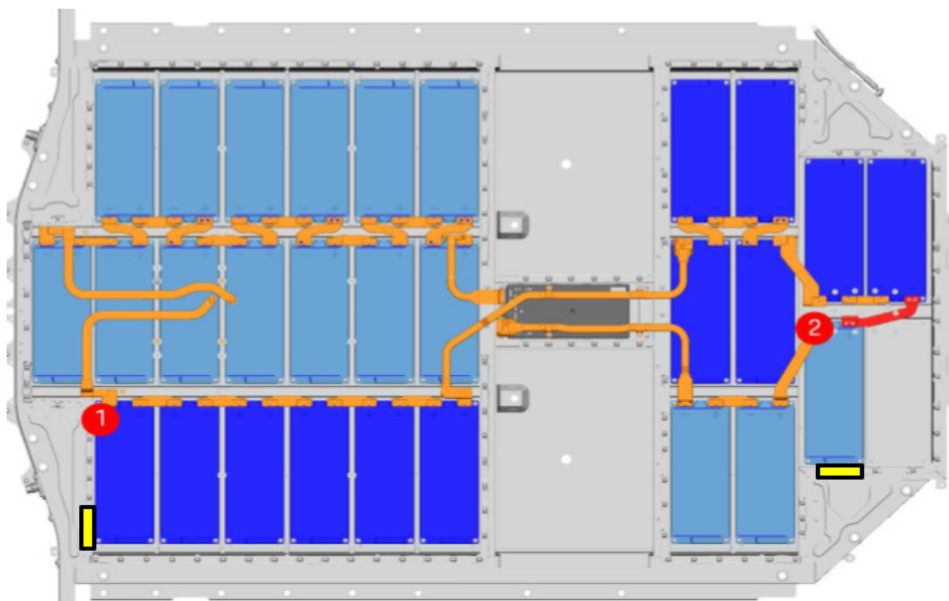

Figure 1 - 28-module HV Battery measurement points
- Suggested grounding points for DST and IR testing on both 28- and 33-module Taycan battery packs have been modified from WM 270803A5 and are detailed below in *figures 1 and 3*.
DST Procedure for 28-module Taycan Battery Pack (Figure 1)
- The yellow boxes in *Figure 1* designate the sections of frame where a lid screw can be hand-started to ground the dielectric strength tester.
- Perform IR tests at each measurement point in *Figures 1 and 3* before and after a DST at that point.
- Discharge capacitance and remove all the busbars from modules of failed section(s) differentiated by light and dark blue in *Figures 1 and 3*.